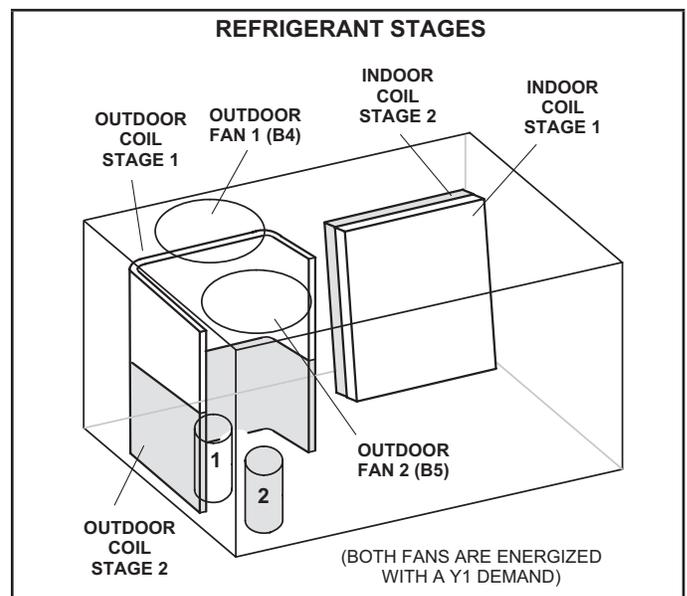

FIGURE 13
- 3 - Units contain two refrigerant circuits or stages. See FIGURE 13.